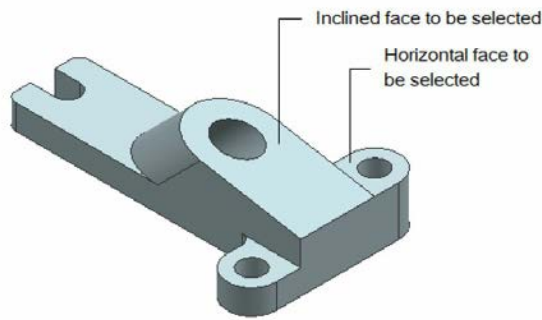
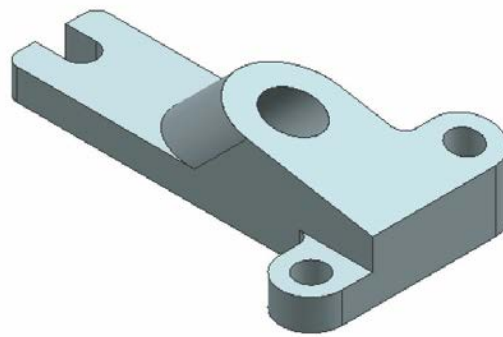

Figure 13-108 Faces to be selected
Figure 13-109 The resultant model
- g. Align the horizontal face to the inclined face using the **Replace Face** tool, refer to Figure 13-108.
2. Select the horizontal face of the base plate, refer to Figure 13-108.
3. Choose the **Face** button from the **Replacement Face** rollout and then select the inclined face of the model, refer to Figure 13-108. Next, choose the **OK** button. The resultant model after aligning the selected faces is shown in Figure 13-109.